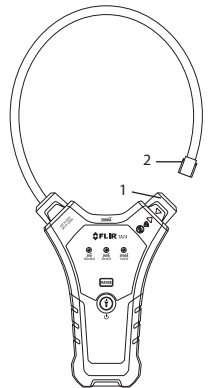

Fig. 5-2 Clamp Jaw Lock
5. Turn the clamp lock (1) counter-clockwise to release the clamp (2). See Fig. 5-2.
7. Attach the flexible clamp coil tip (2) to the lock (1) and lock it in place by turning the clamp lock clockwise. See Fig. 5-2.